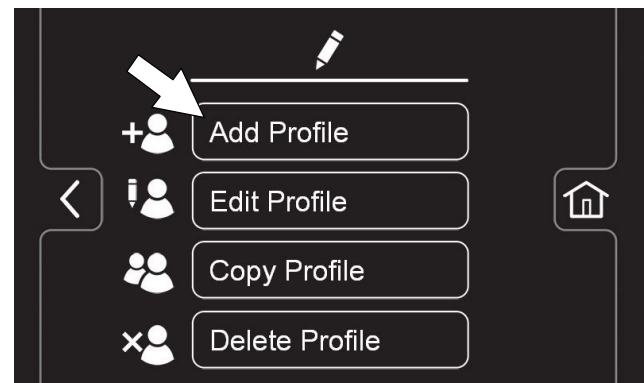

FIG. 169
- Press the Add Profile button to add a new user profile (Figure 169).